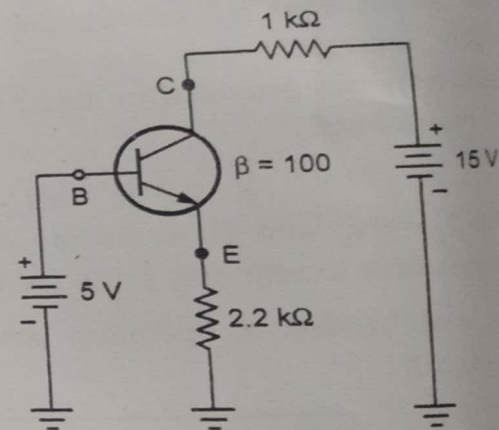

Fig. Q.55.1
Q.55 Determine I_{CQ} and V_{CEQ} for the network shown in Fig. Q.55.1.